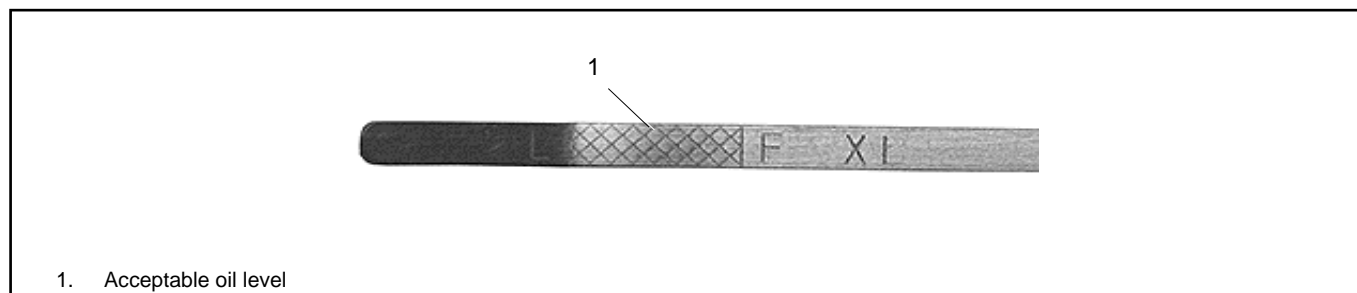

Figure 18 Oil Dipstick
5. Pull out the dipstick again to check the oil level. The oil level should be maintained between the F (full) and L (low) marks. See Figure 18.